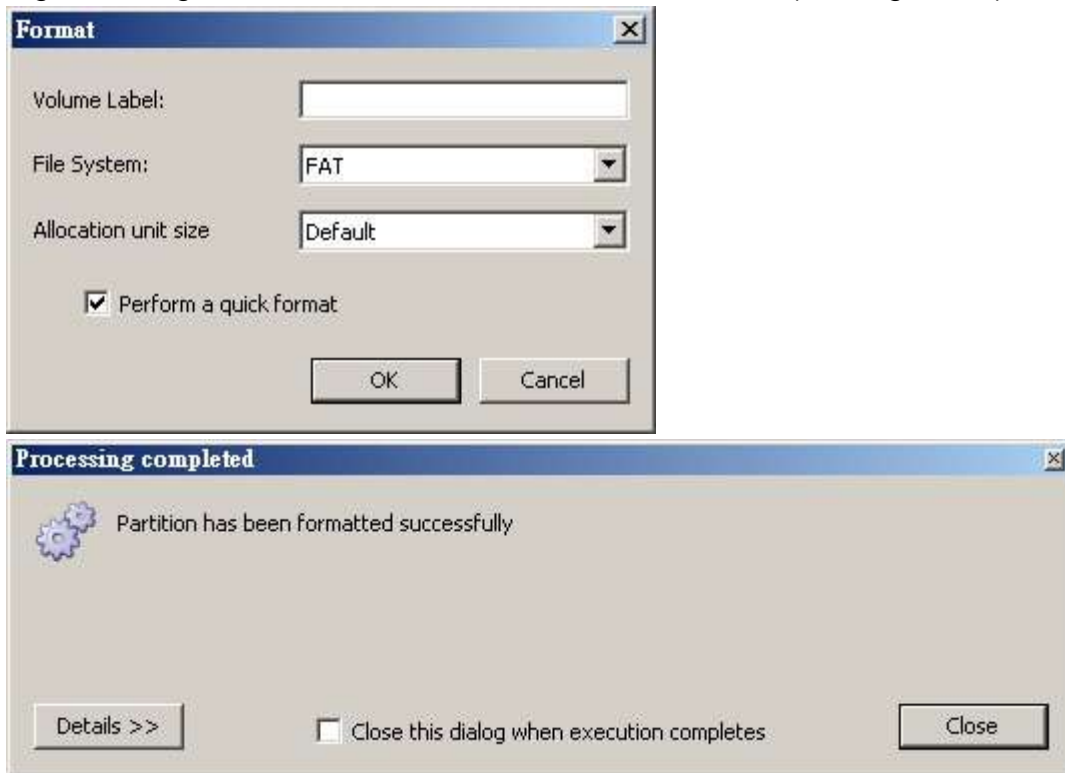

Figure 95
- Right click again and choose format, Click OK, finished (see Figure 95)